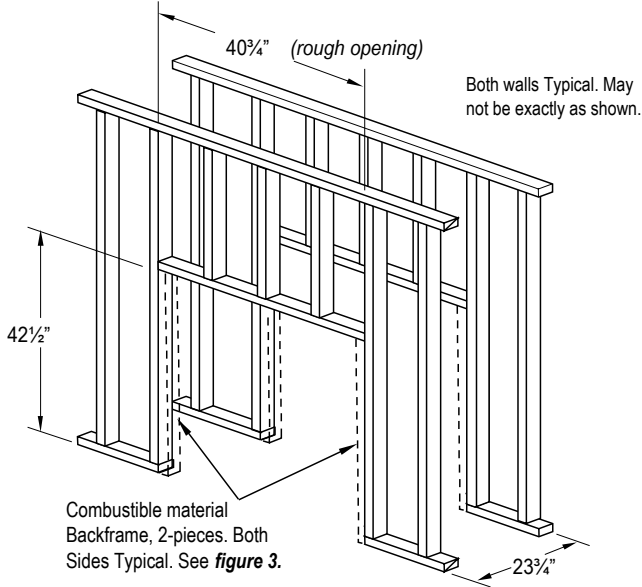

Figure 2. Framing dimensions, (Both Sides Typical).
- 1). Frame in the enclosure for the unit with framing materials. The framed opening for the assembled fireplace is 40³/₄" wide, x 42¹/₂" high x 23³/₄" deep, see Figure 2.